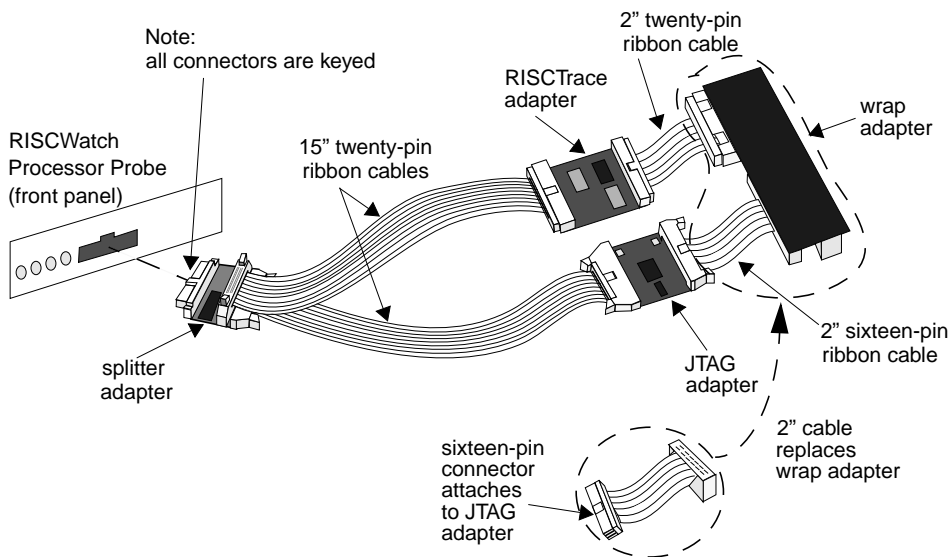

Figure 5-2. JTAG Adapter with RISCTrace Assembly
5. If your adapter assembly resembles Figure 5-2, you have what we refer to as a “JTAG adapter with RISCTrace assembly”. To assemble the adapter assembly and cables, perform the following steps:
- a. Remove the “wrap” adapter, if attached to the cables. This requires disconnecting the 20 pin ribbon cable from the wrap adapter and the 16 pin ribbon cable from the JTAG adapter (See Figure 5-2).
- b. Attach the non-keyed side of the 2” cable to the 16 pin connector (See Figure 5-2).